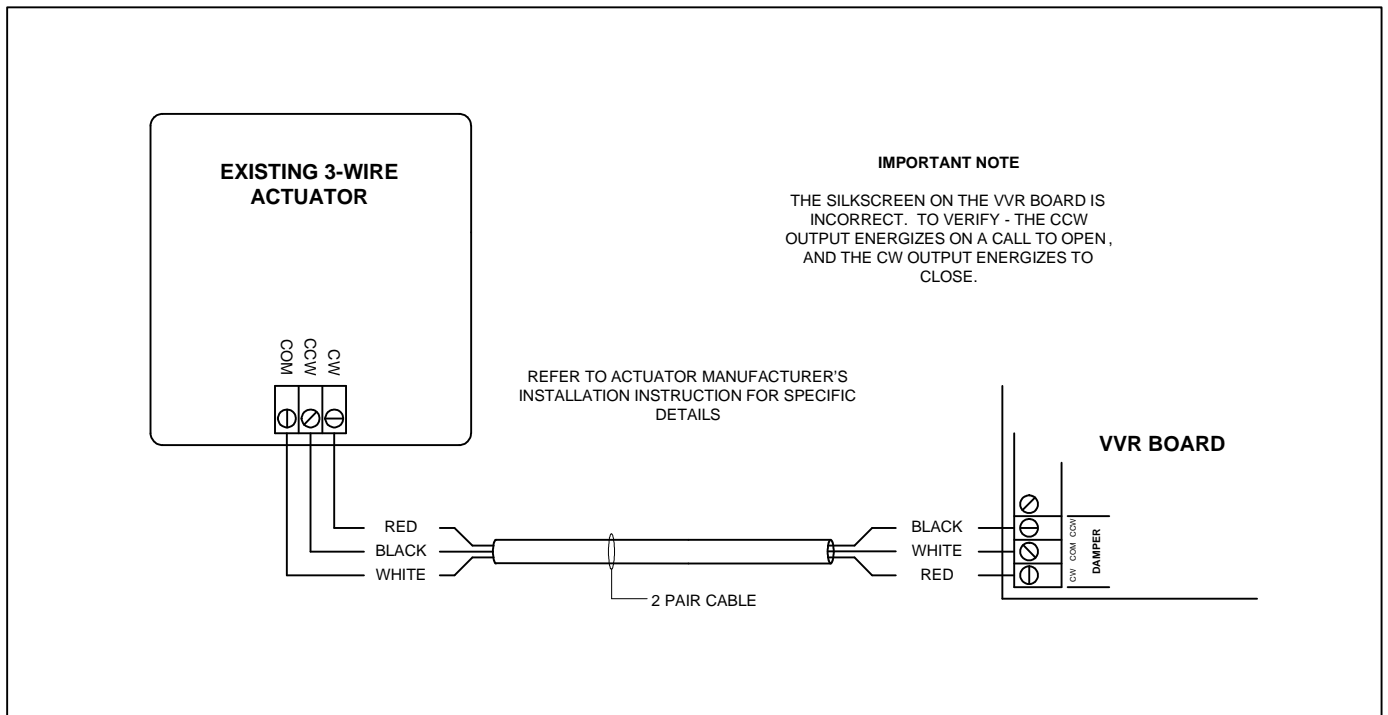

Figure 7: Wiring of Existing Actuator for Counter-Clockwise to Open
2. Connect the existing 3-wire floating actuator with 2-pair cable as shown in **Figure 7**.